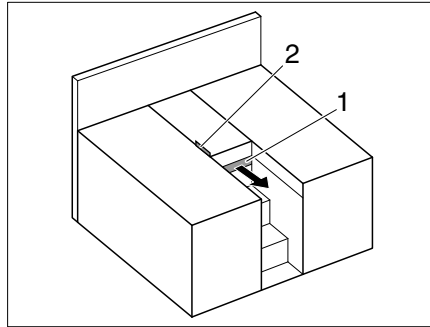

Fig. 178 Single beds
- Detach retaining strap (Fig. 178,2) and pull out extension (Fig. 178,1).